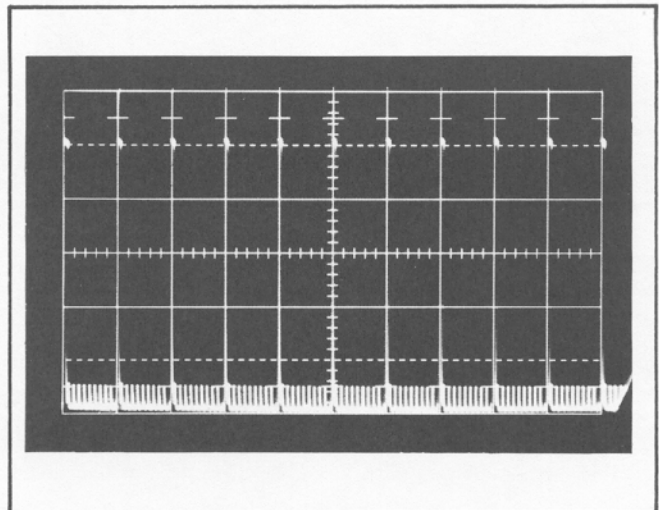

Fig. 5-5. Typical Test Oscilloscope display for scaler adjustments.
b. If the Test Oscilloscope display is other than one large $10 \mu\text{s}$ marker per centimeter with nine low amplitude $1 \mu\text{s}$ markers between each two large pulses (see Fig. 5-5), adjust the 100 kHz CAL, R30, halfway between the points of eight $1 \mu\text{s}$ markers and ten $1 \mu\text{s}$ markers.